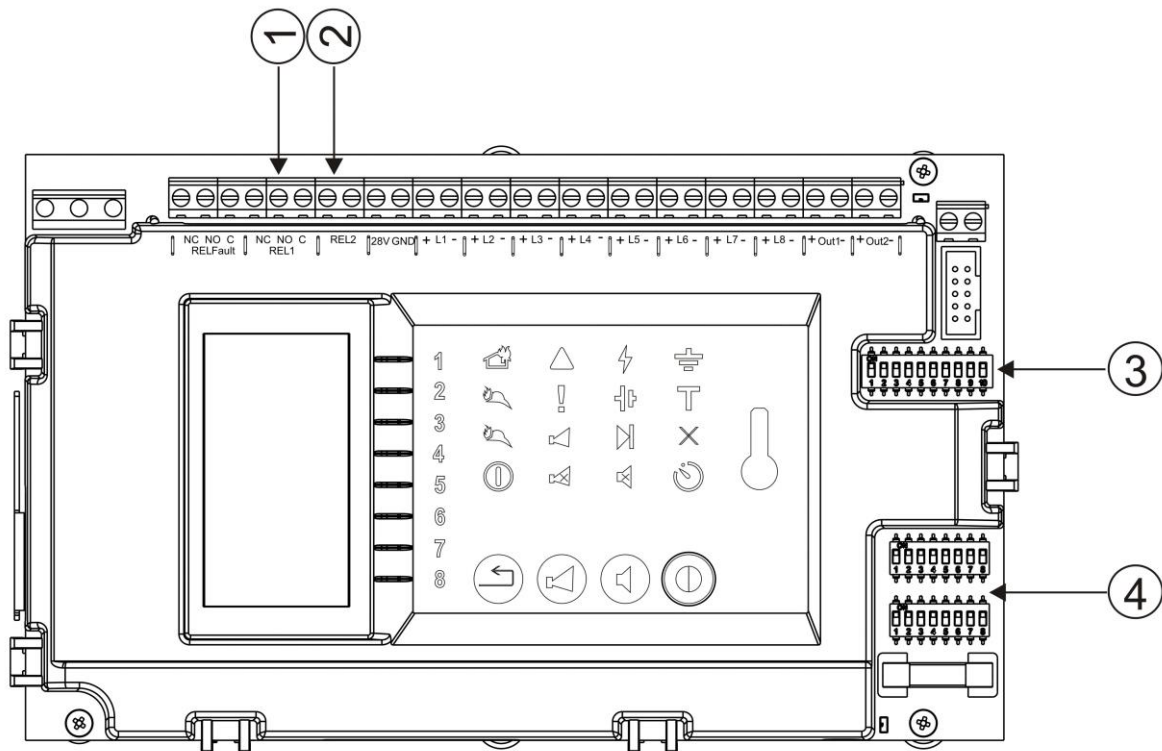

Fig. 1
- defining operation mode of the lines (pos.4, fig.1);
- defining time delay (pos.3, fig. 1);
- disabling monitored outputs (pos.3, fig. 1);
- switching on/off communication interface RS485 (pos.3, fig .1);
- configuring of outputs with 8 steady set user combinations (pos.3, fig .1)
- disabling “Earth FAULT” (pos.3, fig. 1);
- disabling “Check Rem. Det. (pos.3, fig. 1).